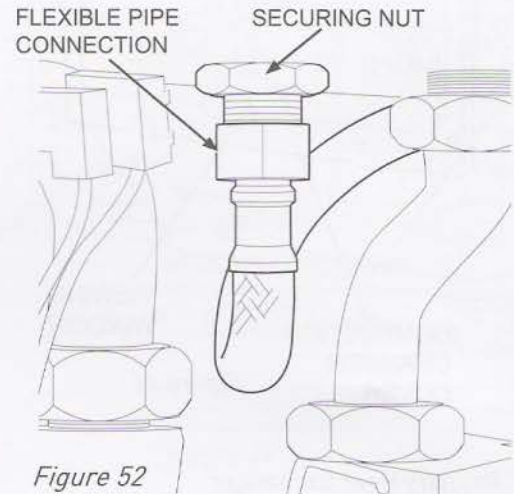

Figure 52
- Disconnect the pipe coupling on expansion vessel (Figure 52).